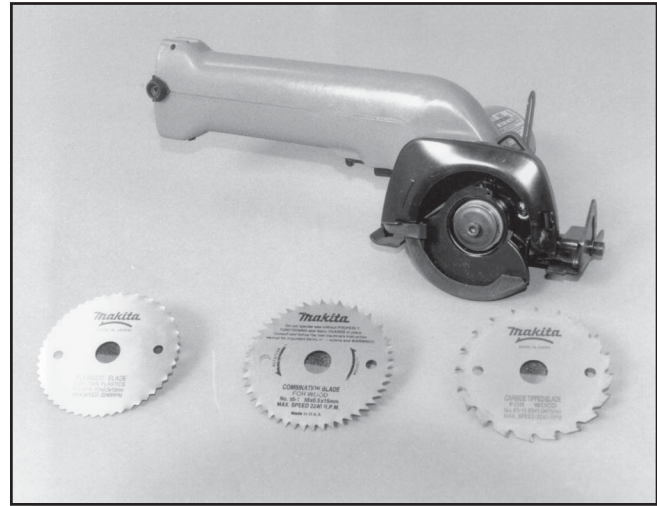

Figure 3—The Makita 3 $\frac{3}{8}$ -inch cordless circular saw.
**Cordless Circular Saw**—One tool considered was a 3 $\frac{3}{8}$ -inch circular saw manufactured by Makita (figure 3). The saw (Model 5090D) is marketed for cutting wooden trim pieces. It is battery operated and uses a 9.6-volt battery that is used in other Makita cordless tools. The saw costs \$80 and is available at local hardware stores. The battery (\$39) and 1-hour battery charger (\$50) are sold separately. The saw is about 12 $\frac{1}{4}$  inches long and weighs about 4 pounds.